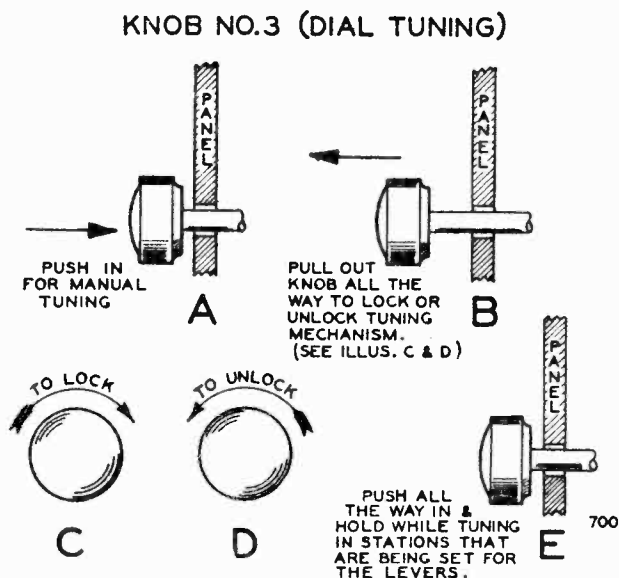

FIG. 3
1. Pull the dial tuning knob all the way out (See Illus. "B," Fig. 3), and rotate the tuning knob to the left (counterclockwise) until it cannot be turned any further (See Illus. "D," Fig. 3). This will unlock the automatic tuner mechanism. (NOTE:—Automatic tuner mechanism is locked **TIGHT** when radio is shipped from the factory.)
2. Press down all the way any one of the automatic tuner levers. Holding it down firmly, press in on the dial tuning knob No. 3 and tune in the station indicated on the station call letter tab on this lever. You will note that in order to tune the station, the dial tuning knob will have to be pressed in (See Illus. "E," Fig. 3). Turn the dial tuning knob very slowly back and forth (while still holding the automatic tuner lever in downward position), noting the width of the shadow on the screen of the cathode-ray tuning indicator. Minimum width on the tuning indicator indicates the ideal tuning position (resonance). The station will then be clearest and accurately tuned in.
5. Pull the dial tuning knob all the way out (See Illus. "B," Fig. 3) and rotate the tuning knob to the right (clockwise) until it cannot be turned any further (See Illus. "C," Fig. 3).